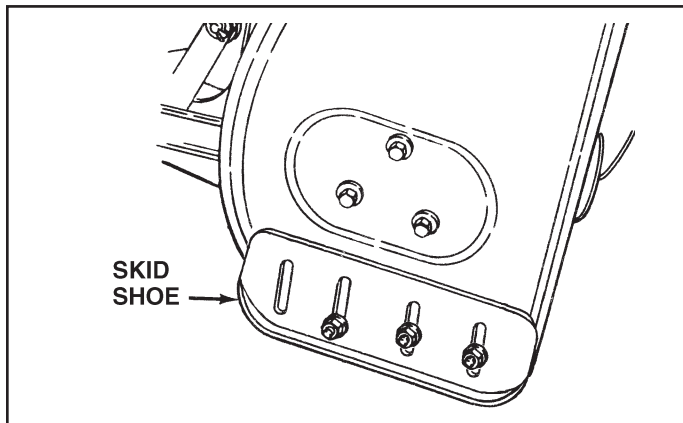

FIGURE 59
(Refer to figures 59 and 60 on page 27)
- Raise the snow thrower off the ground and place a block under each end of the scraper plate. Loosen the six hex nuts securing the skid shoes to the housing. Adjust the skid shoes up or down and retighten the nuts securely. Adjust both skid shoes to the same height to keep the housing and the scraper plate level. See figure 59.